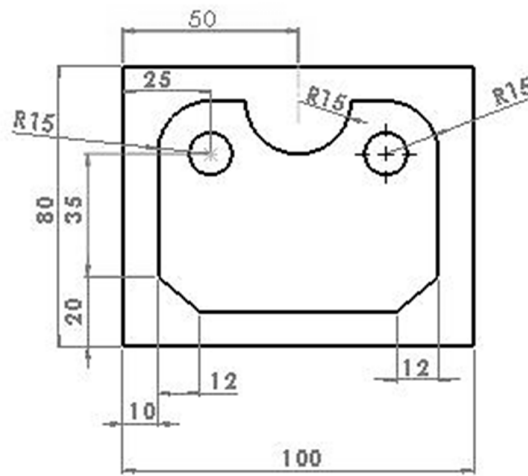

Figure Q4(c)
- With the aid of sketches, describe two (2) motion control systems used in numerical control (NC) systems **(4 Marks)**
- Figure Q4(c) is an illustration of a billet that is to be milled on a three axis CNC machine. Using the program table format provided in Table 1, write a program that can be used to effectively mill the profile. **(13.5 Marks)**